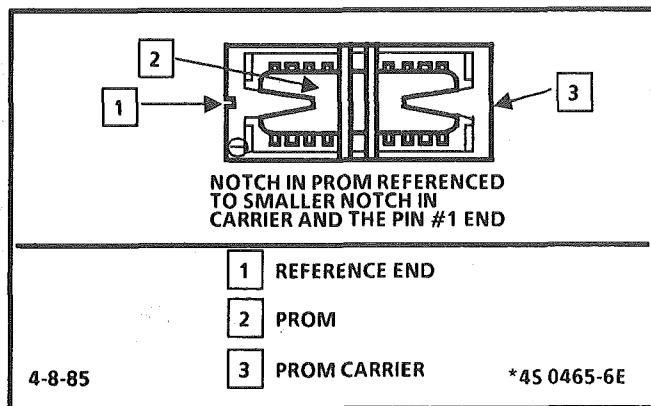

Figure C1-12 PROM in PROM Carrier
2. For correct reference of PROM in carrier, see Figure C1-12.